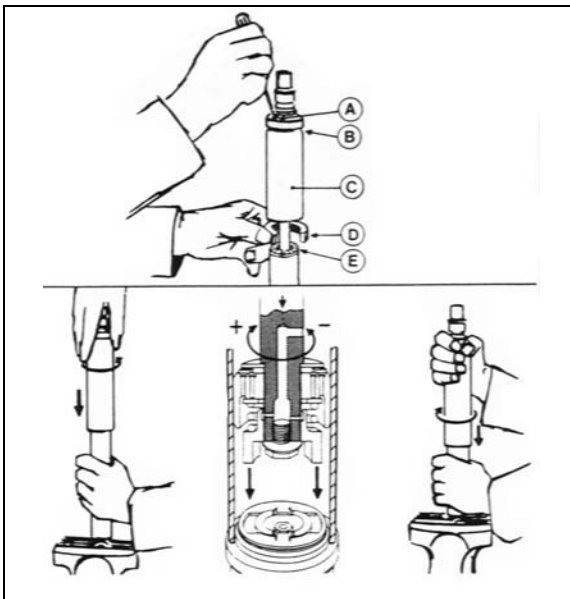

FIGURE 20: DAMPER
To adjust opening and closing cycle speed on damper (Fig. 20):
2. Fully close the damper while turning the dust cap or piston rod slowly CCW until it is felt that the cams of the adjusting nut engage in the recesses of the foot valve assembly (Fig. 20).
| In figure 20, if there is an indentation (B) in the dust cap (C) and the cover shows two holes (A), the damper is fitted with a bump rubber (D). If so, fully extend the damper and insert a round bar or screwdriver through the holes. Push the bump rubber down and remove. Remove the split plastic collar (E) (if fitted) from the piston rod. |
Where a bump rubber was installed, refit same inside the dust cap and by fully closing the damper, the rubber will seat again at top of the dust cap. Refit the split plastic collar E (Fig. 20).